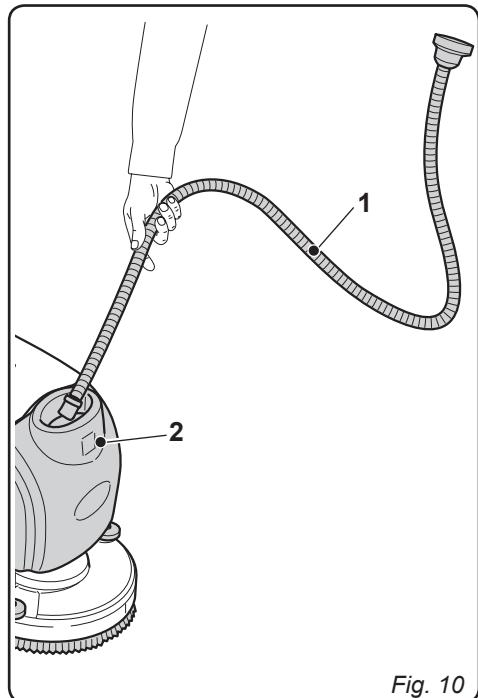

Fig. 10
8.1 FILLING THE TANK (Fig. 10)